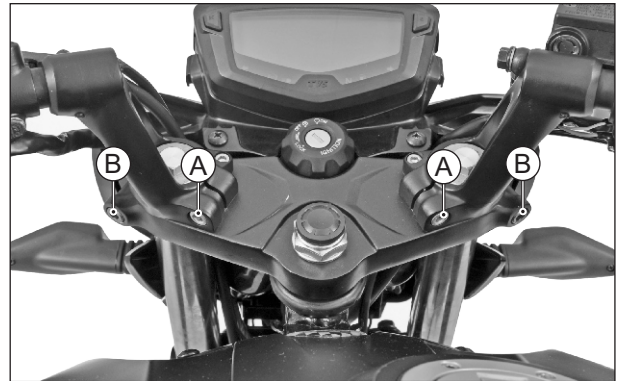

Fig. 6.48
- Loosen hexagonal socket head screws (A) (M8x30 - 2 nos.) from the handle bar assembly mounting. (Fig. 6.48)
- Loosen hexagonal socket head screws (B) (M8x45 - 2 nos.) from the upper bracket complete mounting (fork upper mounting). (Fig. 6.48)